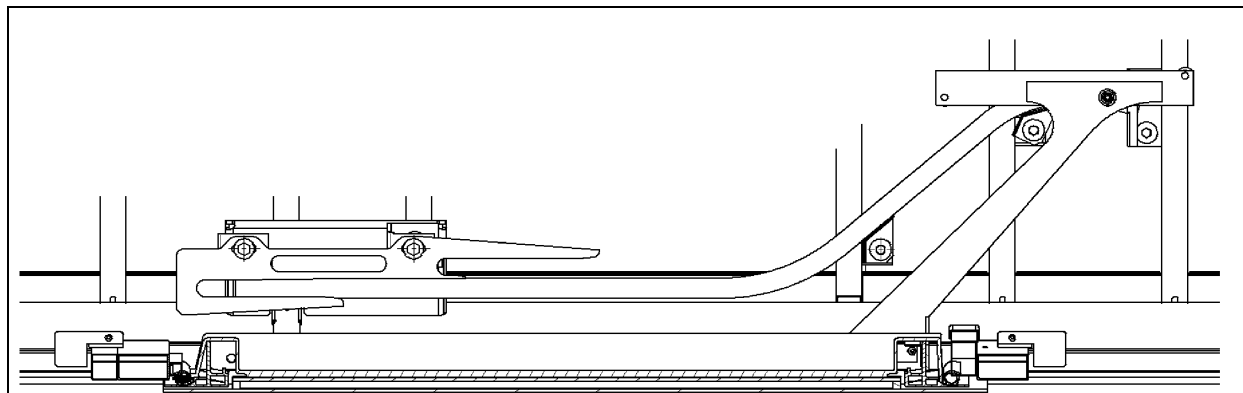

FIGURE 62: WCL UPPER ARM AND RAIL
2. Slide the top rail into the upper arm then bolt the rail to the structure. Do not fully tighten (Refer to Figure 62).